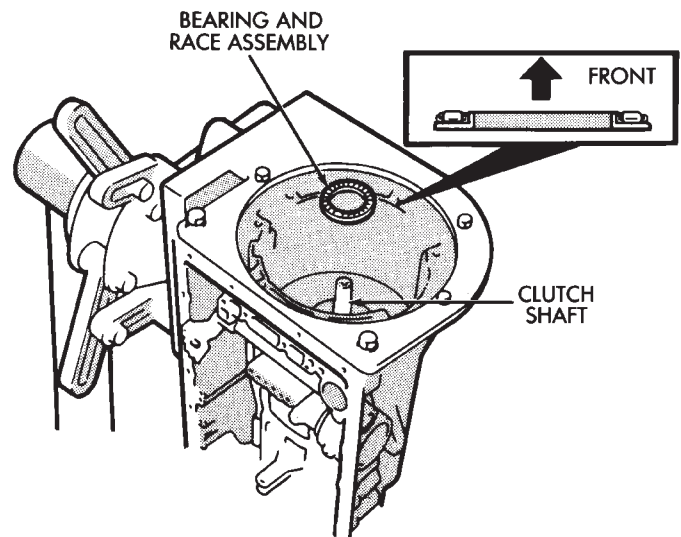

Fig. 31 Installing Clutch Shaft Thrust Bearing And Race Assembly
(38) Coat thrust bearing and race assembly with petroleum jelly and install it on clutch shaft. Bearing faces up and toward case front as shown (Fig. 31). Verify bearing/race size. Bearing and race outer diameter is 47.8 mm (1.882 in.) and inside diameter is 33.6 mm (1.301 in.).